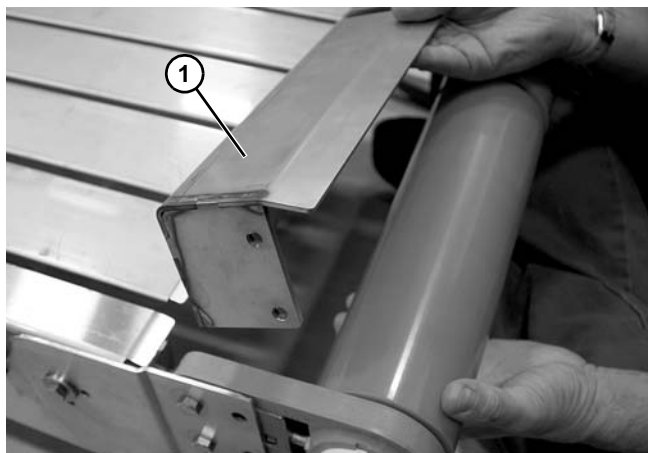

Figure 77
3. Remove support bracket (Figure 77, item 1).